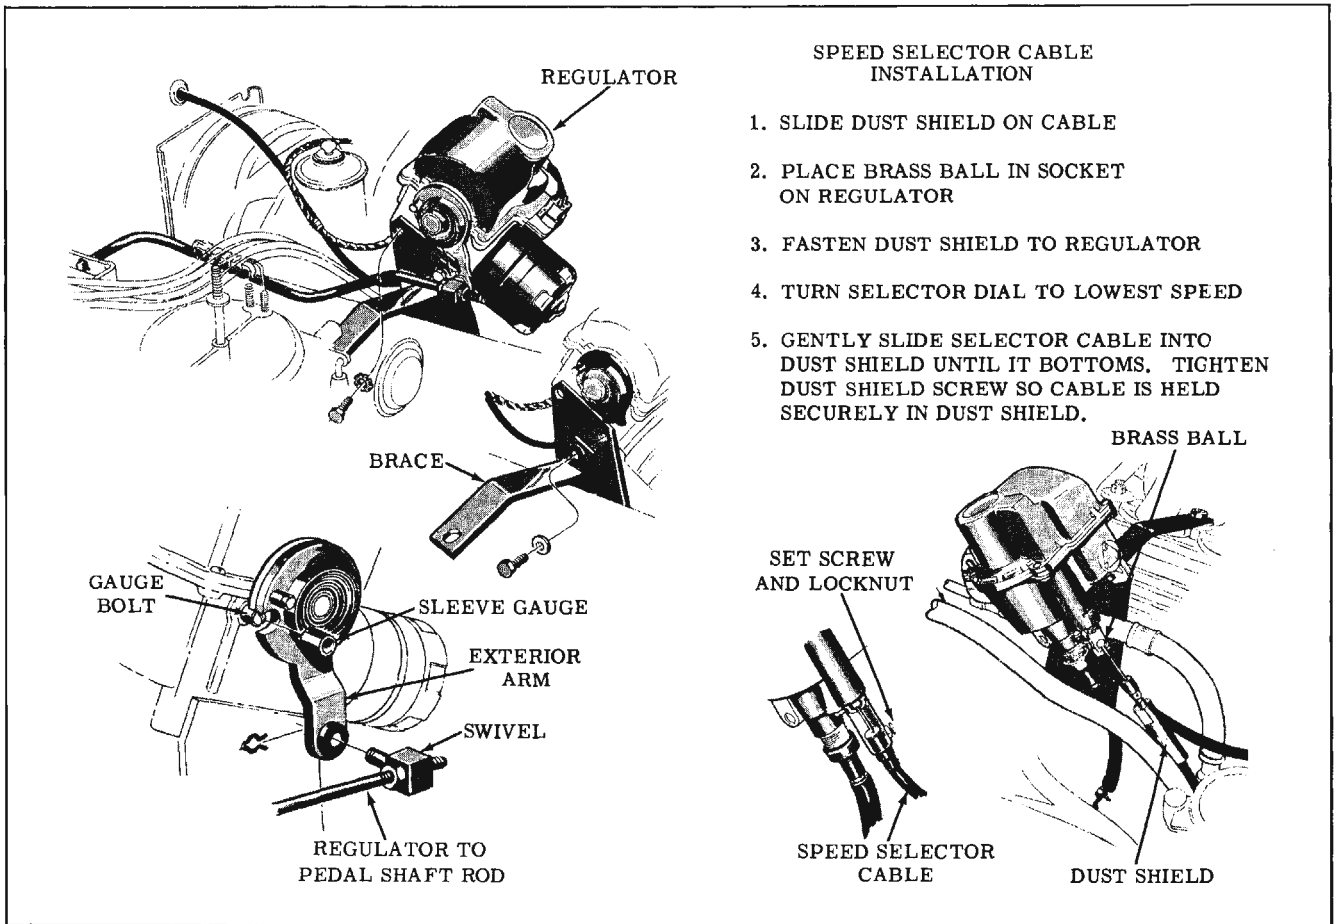

Fig. 13-27 Speed Selector Cable Adjustment
3. Insert Sleeve Gauge, J-7652, over gauge bolt and hold exterior arm securely against gauge. (Fig. 13-27)
3. Carefully insert ferrule back into dust shield, without forcing it, until ball socket just bottoms in housing. (Fig. 13-27)